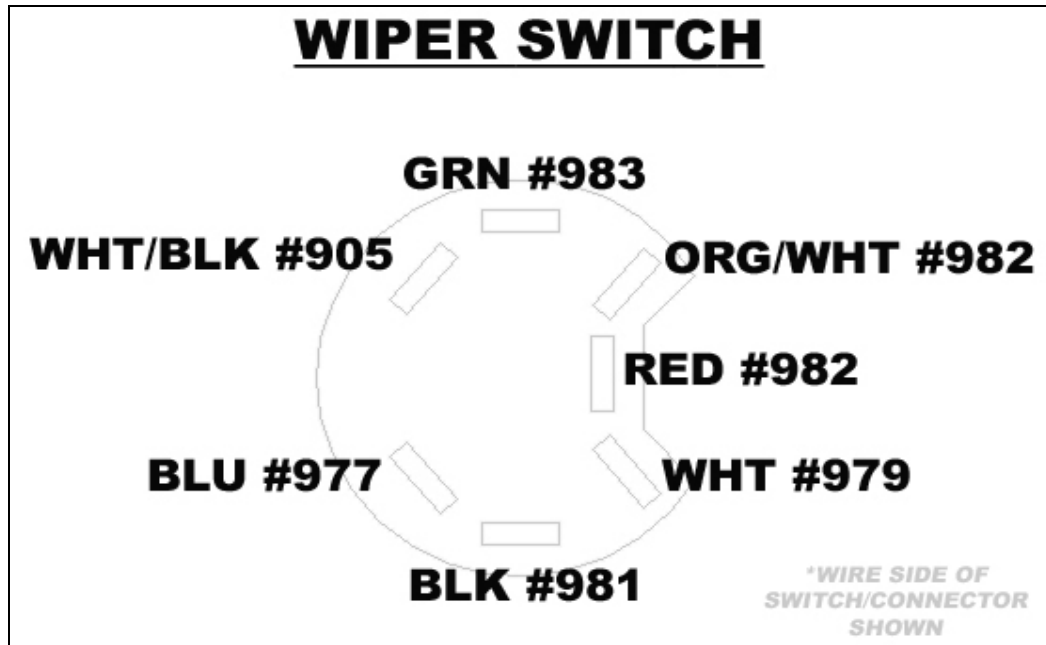

Figure 7-22 Wiper Switch Connection
- 7.12.1 Locate the group of wires labeled Wiper Switch. Connect these wires to the wiper switch according to **Figure 7-22**. Additional terminals have been supplied in the parts kit to allow the customer the option of using their factory connector.